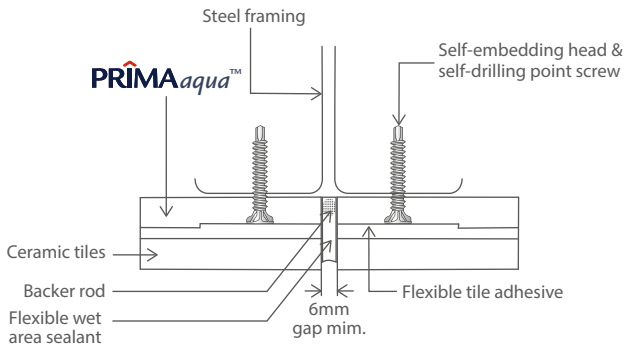

Figure 14: Detail at tiled expansion joint
4. Do NOT tile over the expansion joint. Refer Figure 14.
5. Expansion joint should be sealed with flexible wet area sealant. Refer Figure 14.